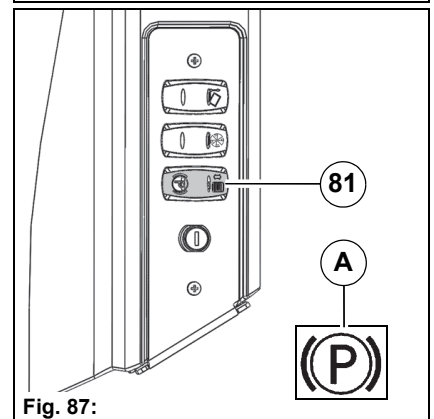

Fig. 87:
- The warning symbol **Fig. 87-A** appears in the multifunction display.
Press the switch **Fig. 88-81**. The parking brake is released again. With the parking brake released the warning light **Fig. 87-A** goes out.